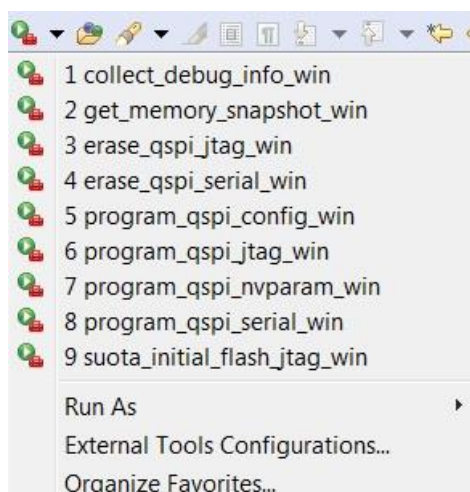

Figure 29: External Tools
2. Under the **External Tool Configurations** menu, click on the program_qspi_serial_win option (Or Run > External Tools > program_qspi_serial_win) as shown in Figure 29